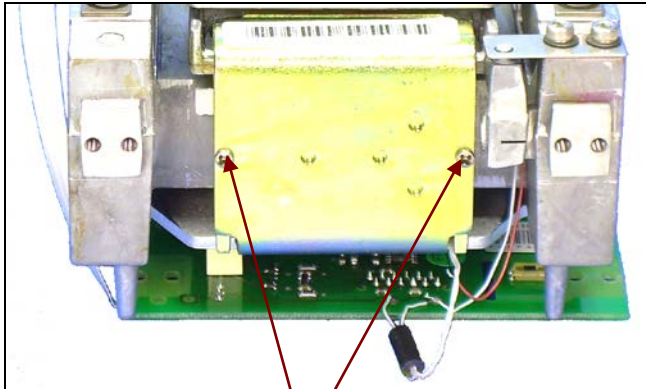

Figure 3-55. Two screws secure Magnet Half.
- 16. Remove the two screws from the Magnet Half. (See Figure 3-55.) Pull the Magnet Half away from the Ratio Coil. (Pull hard to overcome magnetic force and any possible corrosion.)